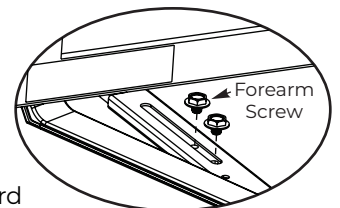

Figure 24
- While holding arm in position, secure main arm slide tube to adjusting tube with forearm screws. (Figure 24)